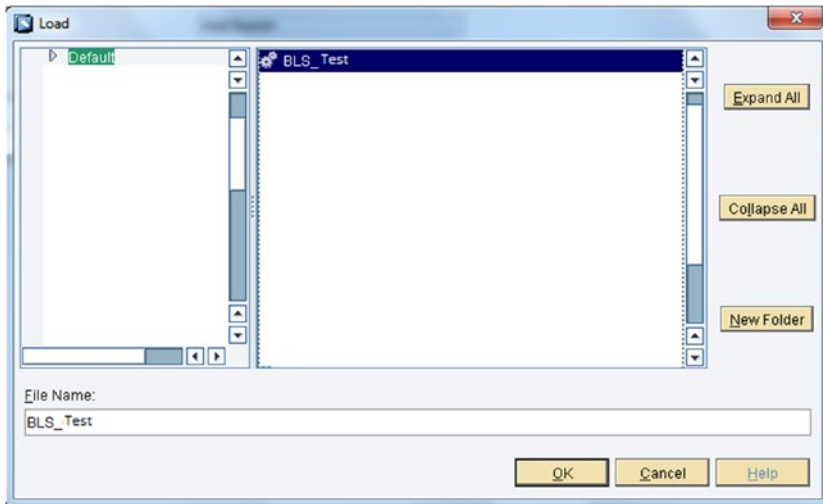

Figure 7-4. Loading the object
2. Select the object (BLS or Query template) from the available tree, as shown in Figure 7-4.